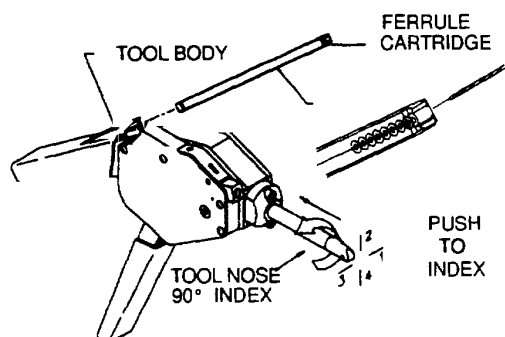

Figure 2-95. Pre-Set Tension Safety Cable Tool
(3) Install the safety cable through the fasteners to be secured.
(4) The nose can index to four positions at 90° increments. To select the position, push the nose in towards the tool and rotate to the desired position. Release the nose, if the nose does not lock into the indexed position, turn it slightly until it does. See figure 2-95.
(5) Insert the free end of the cable through the ferrule in the cartridge, and remove the ferrule by pulling the cable away from the end of the cartridge. See figure 2-95.
a. The Pre-Set Tension Tool. (See figures 2-95 and 2-96). Insert the free end of the cable into the cable entrance and continue to push the cable into the cavity. When the free end of the cable appears at the bottom of the tool, grip the cable and pull the slack from the cable until resistance is felt. Begin removing slack from the cable by repeatedly closing the tool handle allowing the handle to open fully before closing again. When all slack is removed from the cable, snug the tool against the fastener by using several short strokes of the handle. Release the handle to the full open position and fully close the handle to crimp securely and cut flush.